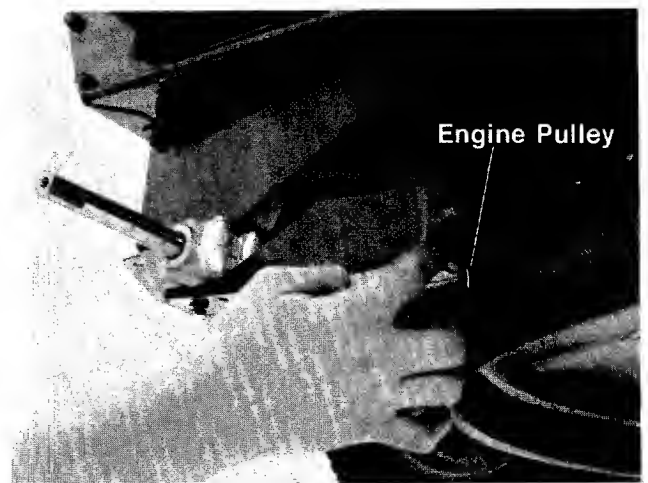

FIGURE 23.
6. Pivot the lower outside engine belt guard out and away from the engine pulley. See figure 23.